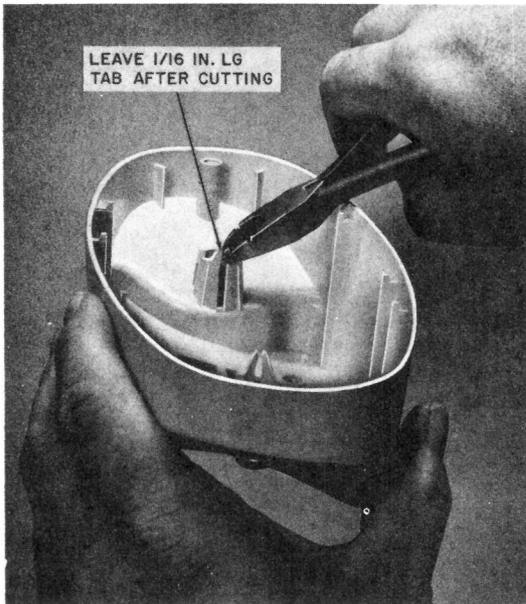

Fig. 13— Modification of Housing
- (1) Using diagonal side cutters, clip off a portion of the "plunger-well snap-tabs," which interfere with the network, as shown in Fig. 13.